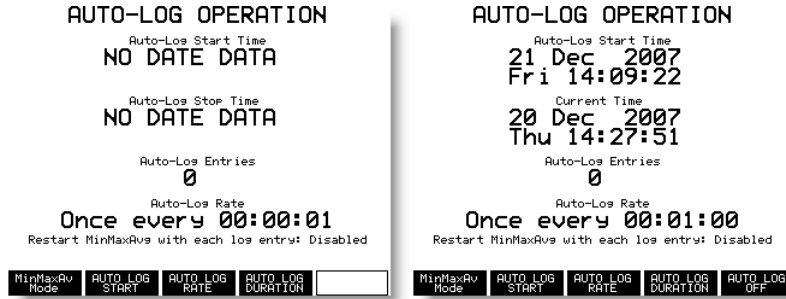

Figure 3.6: AutologSetup
**Example:** Let's suppose you need to record data for about one hour at 1 minute intervals, starting on December 21st. The starting screen at the left indicates no date and time, and the AUTO LOG ENABLE soft key is vacant. The completed configuration is shown on the right in Figure 3.6 indicates a start time, stop time and a total of 60 records.
When the Autolog start time is reached, the 933A will begin logging data based on the input signals connected to the 933A and Auto-log Rate. Auto-log Entries (shown as “0” in Figure 3.6) begin incrementing with each record stored. AL, appearing within the Status Indicators, indicates logging activity. Autolog indication is described in Figure 2.9.